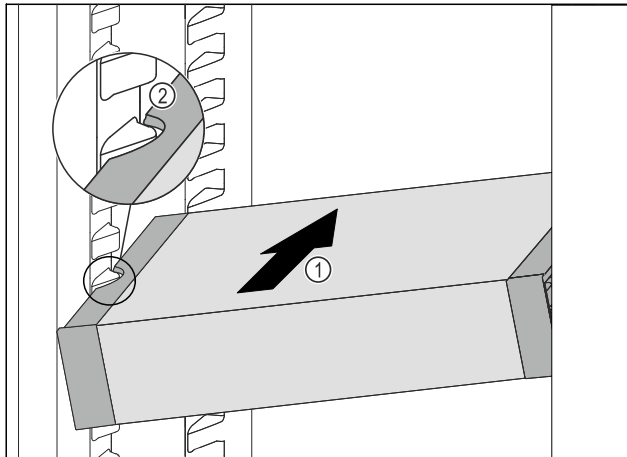

Fig. 118
- Insert the VarioSafe into the fridge section at an angle Fig. 118 (1) until the recesses in the side Fig. 118 (2) of the VarioSafe are at the level of the support rib in the fridge section.